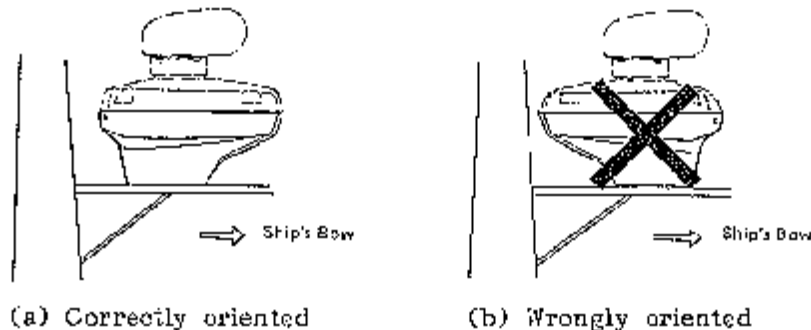

Fig.2. Mounting of Scanner Unit
3. Place the scanner housing on the chosen position, and orientate it as shown in Fig.2(e).